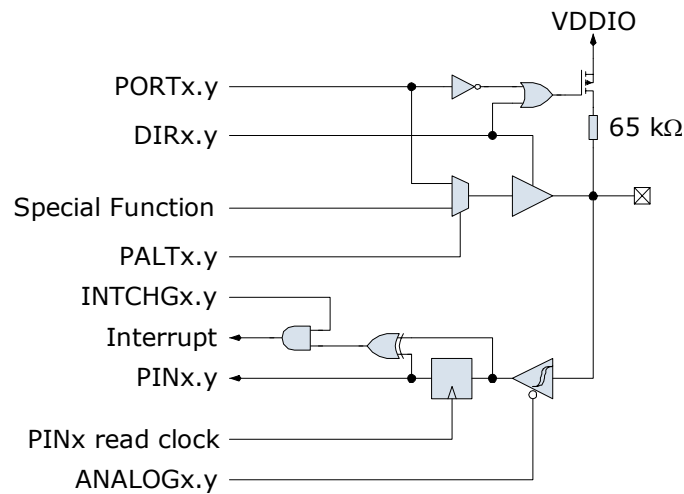

Figure 10 Port pin schematic
Figure 10 shows the GPIO logic. The **DIR** register bit determines whether the port pin acts as an output (1) or an input (0).